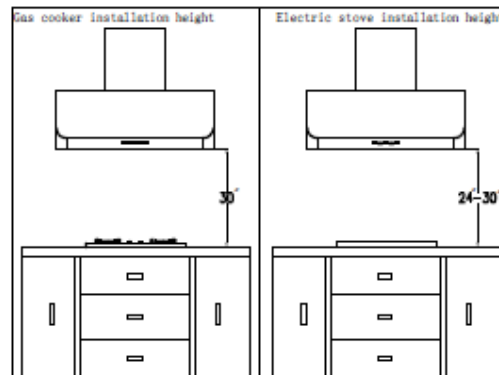
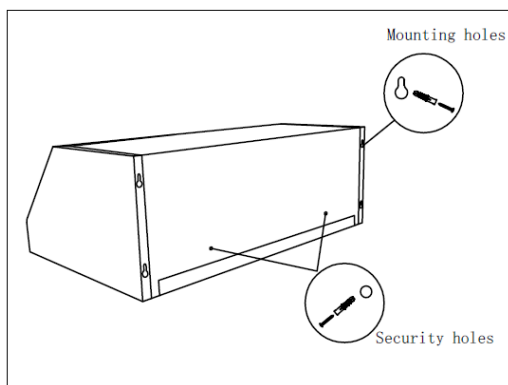

Figure 1
Figure 3
Determine the installation height of the range hood (refer to figure 1).
1. By using the reference of Figure 1 and the measured values on page 14-15, mark four mounting holes and two security holes on the mounting surface of the hood then drill. Firmly embed the expansion pipe (refer to figure 3).